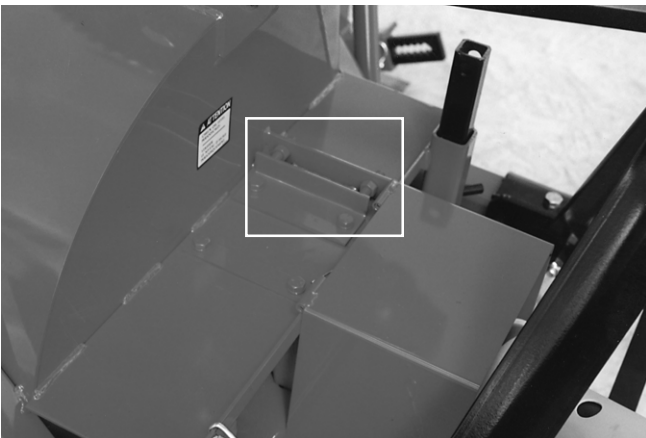

Figure 27
- 8) Check impeller adjustment. The tip of the blades should be approximately 1/8" to 3/16" from the discharge wall of the drum. If necessary, adjust with the take-up screws provided (Fig. 27).